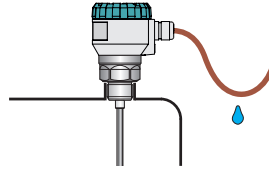

Fig. 18: Prevention to avoid intrusion of humidity through cable gland
- It is appropriate to lead the cable underneath the cable terminal (through the dip diagonally downwards) This will prevent potential **ingression of moisture through the cable grommet**. Thereby, rain and condensing water can flow away freely, fig. 18.
- **The distance the electrode from the tank wall** see page 9. Otherwise, the level meter install as far as possible from the walls, to the middle between the wall and the vertical inlet, see Fig. 18. It must be ensured that the rope electrode could not touch the vessel wall caused by the motion of the medium. In the case of an unanchored rope electrode, its end must not extend into the conical part of the storage tank.